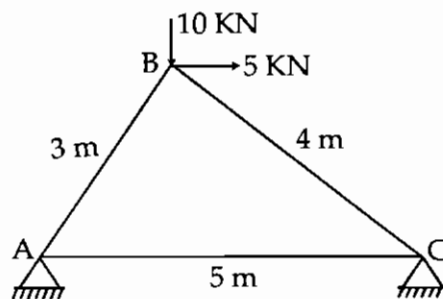

Figure 7 [Q. No. 4 (C)]
(C) Using the stiffness approach of analysis, analyse the pin-jointed truss shown in Figure 7. Axial rigidity of all the members is same. **13**